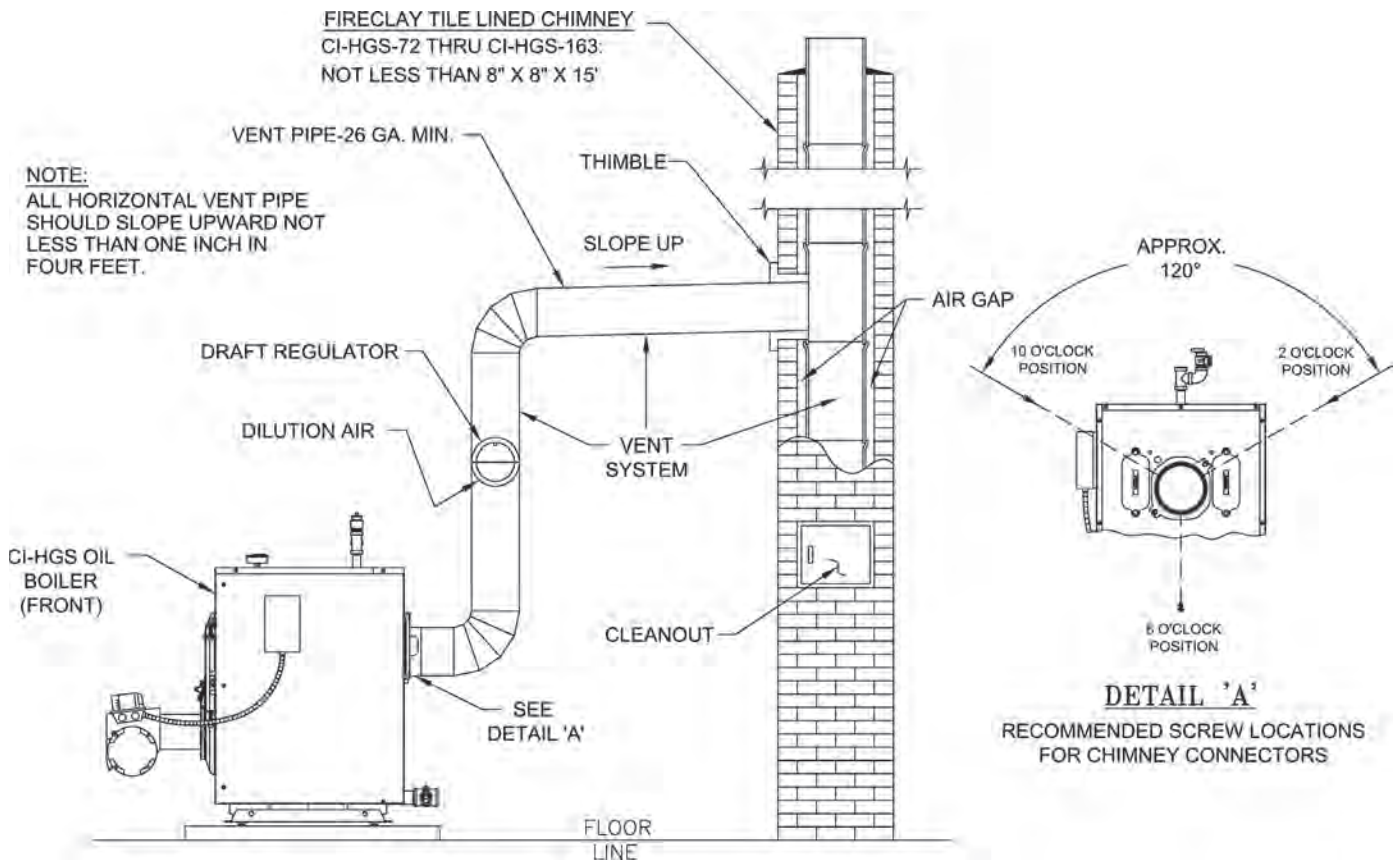

Figure 10: Recommended Vent Pipe Arrangement and Chimney Requirements
3. The CI-HGS can be vented into a fireclay tile-lined masonry chimney that meets requirements outlined in Paragraph 4 below. It can also be vented into a chimney constructed from type L vent or a factory built chimney that complies with the type HT requirements of UL 103. The chimney and vent pipe shall have a sufficient draft at all times, to assure safe proper operation of the boiler. See Figure 10 for recommended installation.
5. Draft Regulator – the draft regulator supplied with the boiler must be used with this appliance. No other draft regulator shall be used. Refer to Figures 10 and 11.
NOTE: Secure chimney connector to cast iron smokebox collar with three (3) #10 x ½" self drilling hex head TEK screws provided in miscellaneous parts carton. Locate screws around perimeter of connector as shown in Figure 10 and approximately ½" in from edge. Use drill with 5/16" hex bit to drive screws through connector and smokebox collar.